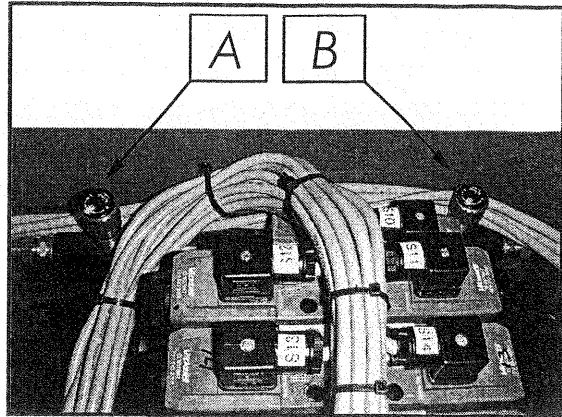

Figure 12-2. Adjusting the closing time of brakes
8. Adjust the stopping distance of the MEWP to 0.2 m from valves A and B (figure 12-2). Both valves must indicate the same value, refer to valve scales.